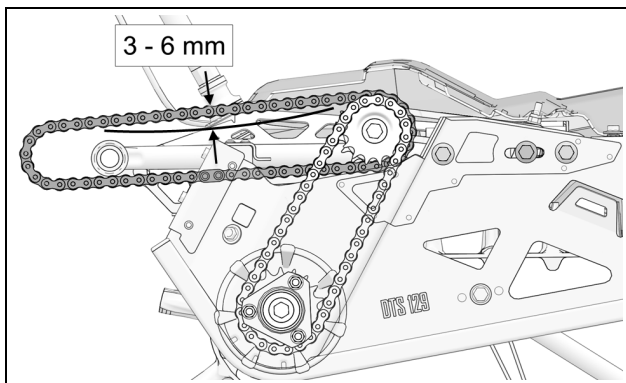

Figure 7
- Once the secondary drive chain tension is set, finalize tension adjustment of primary drive chain. Apply pressure at center of the two drive sprockets. The chain should have 3-6 mm (1/8 -1/4 in.) of play. Re-adjust until the right amount of play is obtained. See Figure 7.